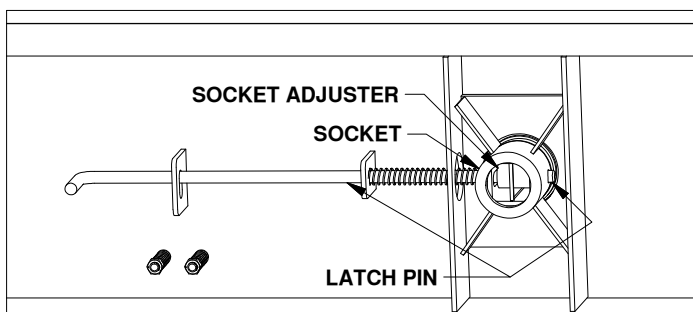

Figure D3: View under truck bed.
**⚠ WARNING:** Check the latch pin under the truck. Make sure that the latch pin has passed through both sides of the socket and that the pin is covered up inside the socket by the socket adjuster, see Figure D3.